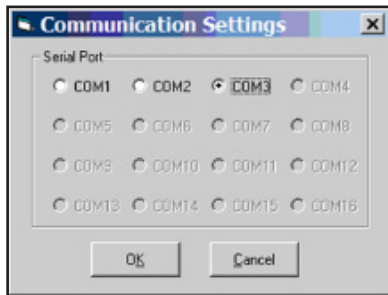

FIGURE 7
2. Select "Settings" and "COM Port Selection." This will open a "Communication Settings" window. Select the COM Port that was set in Installation. See FIGURE 7.